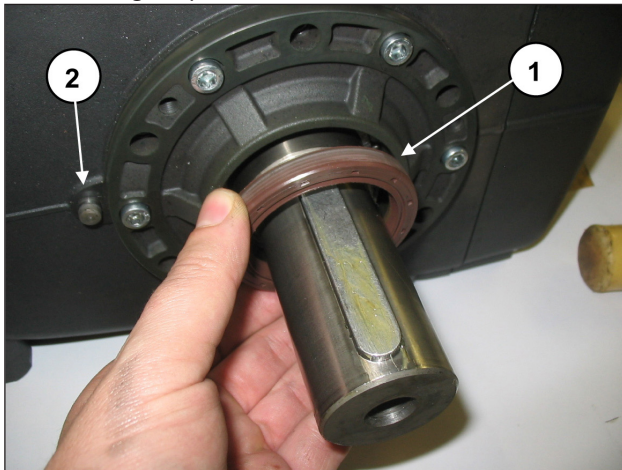

Fig. 33
To modify the version, fitting the reduction unit where it has not been contemplated, you need to remove the shaft oil seal (Fig. 33, pos. ①) and insert on the casing the reduction gearbox reference pin Ø8 (Fig. 33, pos. ②).
When modifying the version, removing the reduction unit where it has been contemplated, you need to insert the shaft oil seal ring in its seat on the side cover using the tool code 27904800 (Fig. 33, pos. ①).